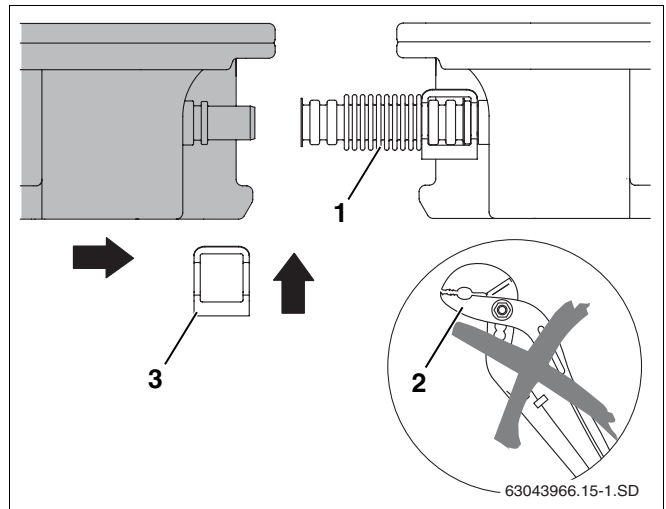

Fig. 46 Pushing second collector towards the first
- ▶ Do not use any tools, e.g. pliers (Fig. 46, **Item 2**). These could render the corrugated pipe connector unusable.
- ▶ Push the second collector on to the first in such a way that the collector connections are pushed into the preassembled corrugated pipe connectors (Fig. 46, **Item 1**) on the first collector.
- ▶ Place second bracket (Fig. 46, **Item 3**) over the corrugated pipe connector and collector connection.